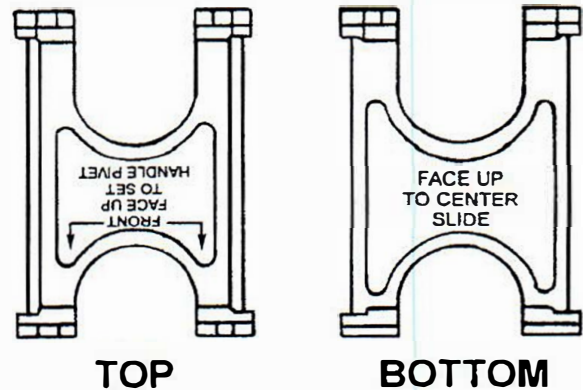

Figure 34. TT-150 Tool
- E. Using other side of the TT-150 tool, install tool to position handle pivot spring assembly with **“FACE UP TO SET HANDLE PIVOT”** facing up. See Figures 34 and 35.